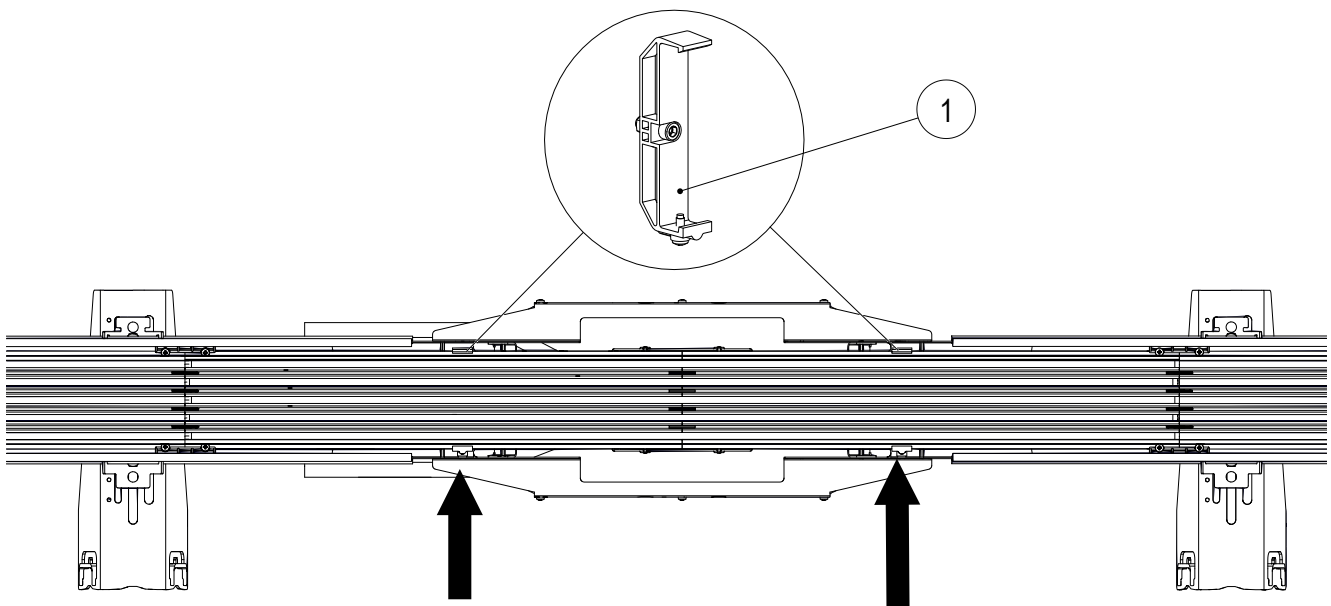

Fig. 74: Position of anchor point
- Using a crosshead screwdriver, tighten the fillister head screw (C) so that the screw head rests on the transverse bore of the anchor point (see Fig. 74).